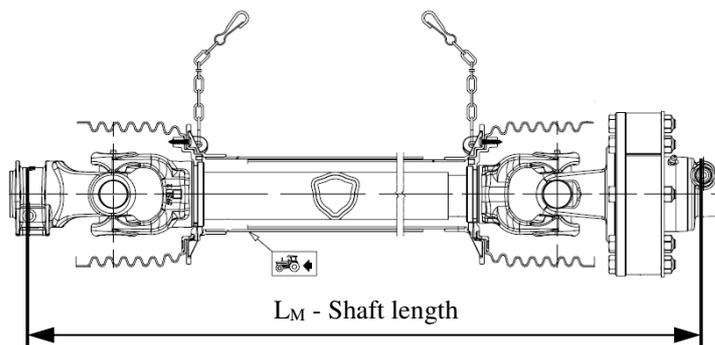
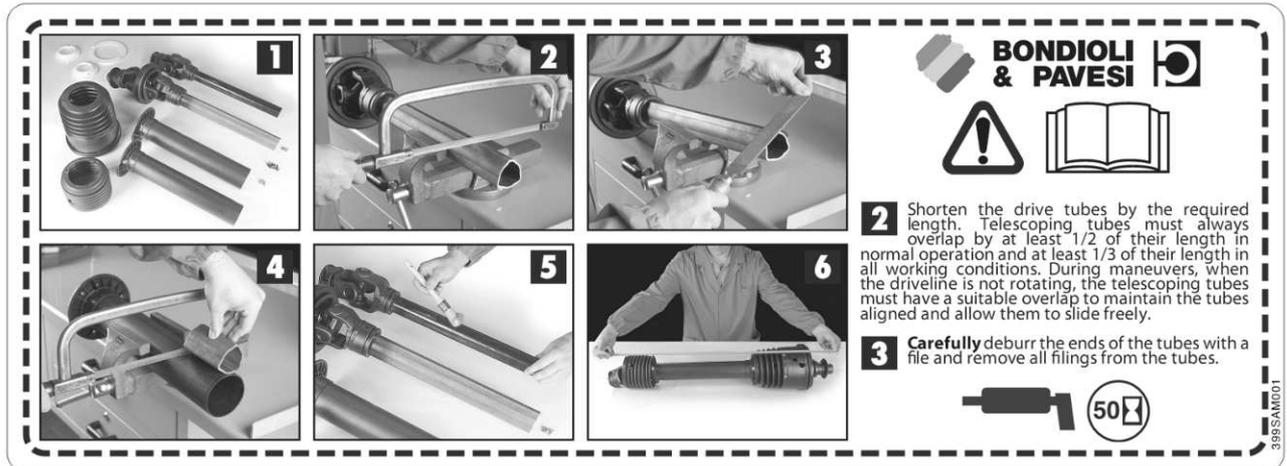

Fig. 14. Properly measured shaft length
Fig. 15. PTO shaft shortening instructions
- ❑ additionally distract 3.15" (80mm) from the resulting measurement (L_Z) in order to keep tolerance and shorten the shaft for this particular length (**Fig. 14**). Information on proper shortening of shafts is provided on label N-149 (**Fig. 15**) placed on the machine and also in shaft's manual delivered by its manufacturer.
NOTE: If necessary, shorten the PTO shaft according to its operator's manual given by the shaft's manufacturer (**Fig. 15**).